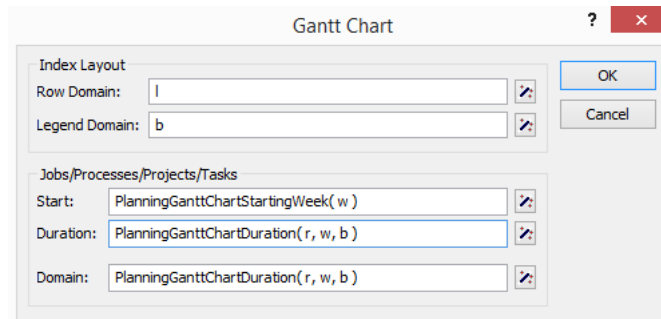

Figure 12.19: The **Gantt Chart** dialog box for the maintenance planning Gantt chart
- ▶ use the **Wizard** buttons  to complete the **Gantt Chart** dialog box as shown in Figure 12.19.